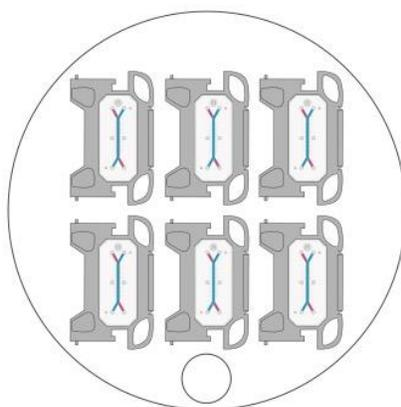

Figure 1: Proper orientation of Organ-Chips in 150 mm dish
2. Open the packaging carefully, and lay out 6 chips in each sterile 150 mm dish. Note: For ease of workflow, align all chips facing the same direction in the 150 mm dish. To properly orient the chips, ensure the tab of the carrier is facing to the right. (See Figure 1)